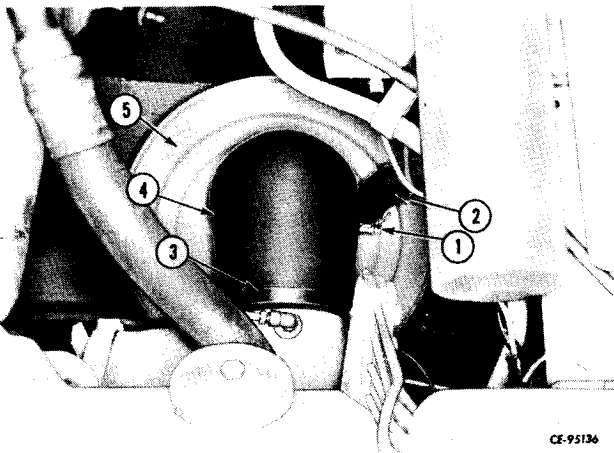

Figure 2-5
Remove air compressor line (2, Fig. 2-5) from end of air cleaner (5) by loosening hose clamp (1). Loosen hose clamp (3) from air intake tube (4). Air intake tube (4) will disconnect from intake manifold during hood removal.